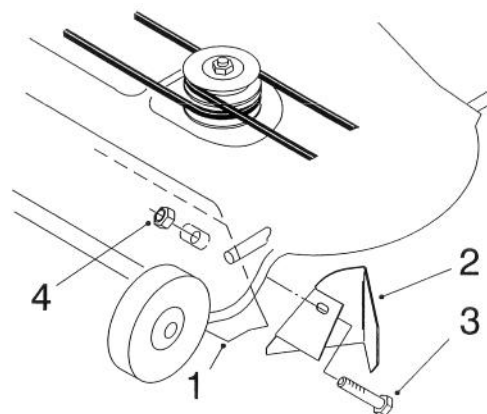

Figure 1
2. Install the grass baffle on the inside of the mower, using a $\frac{3}{8}$ " x 1" hex-head bolt and $\frac{3}{8}$ " nylon lock nut in the hole closest to the discharge opening (Fig. 1). Be sure the grass baffle is tight against the underside of the mower.